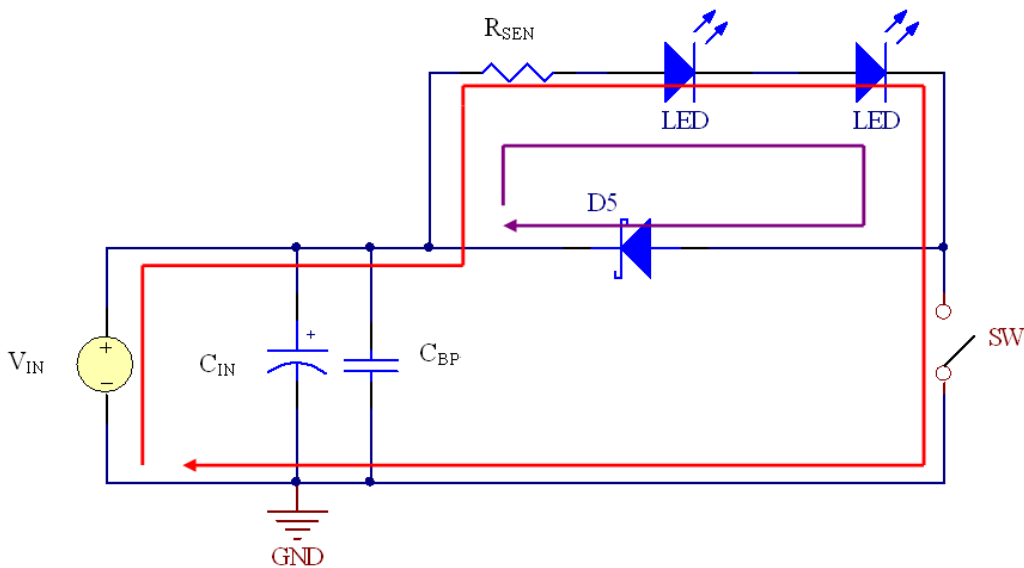

Fig. 48 Power Loop of MBI6661
10. When SW is ON/OFF, the direction of power loop should keep the same way to enhance the efficiency. The sketch is shown as Fig. 48.